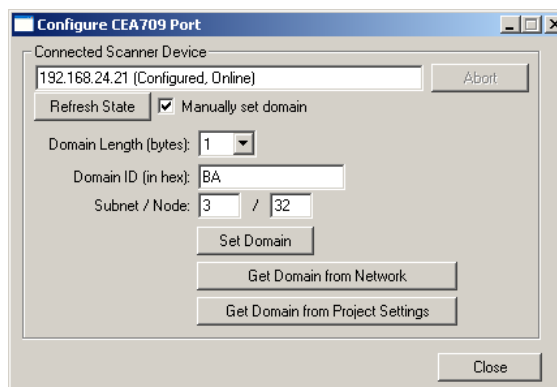

Figure 99: Configure CEA-709 port dialog.
4. If the device has not been installed with a network management tool (e.g. LNS-based tool), press the **Configure CEA709 Port** button. This opens the device install dialog as shown in Figure 99.